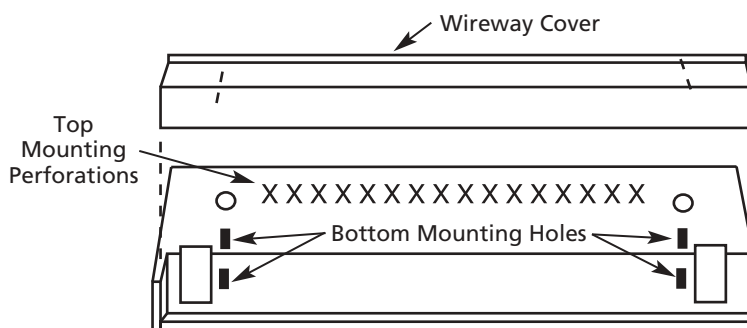

Figure 5
- To gain access to wireway, lay heater face down and remove two screws as shown in Figure 5. Remove the knockouts in the channel areas of both terminal boxes.
6. Position heater to wall (use cross stamped perforations as a guide, see Figure 5) and secure through the top row of predrilled mounting holes using at least two fasteners, one at each end of the heater. If the unit is mounted above the floor to allow carpet installation under the heater, two additional mounting holes are supplied at each end below the element. This will allow you to screw into the sill plate if the unit does not span across two wall studs.